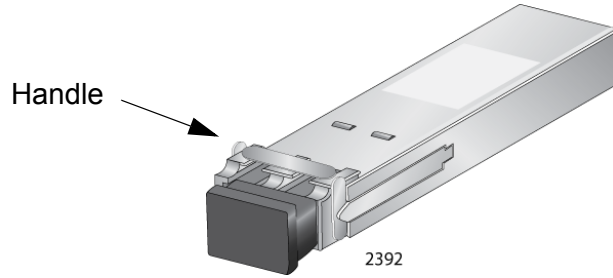

Figure 104. Handle on the XFP Transceiver
3. Orient the transceiver with the handle on top, as shown in Figure 104.